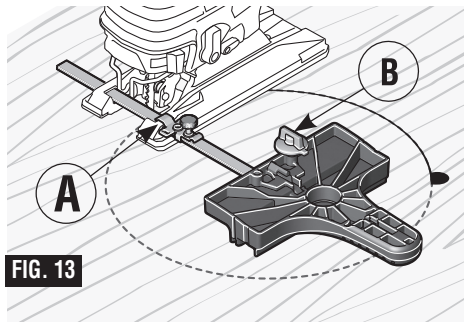

FIG. 13
4. Insert guide bar through a clamp, then through the slots provided in foot, from either side of foot (Fig. 13). (If possible, place second clamp on bar